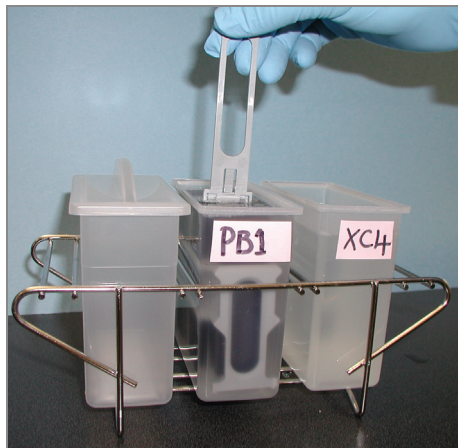

Figure 69 Washing BeadChips in PB1
9. Move the staining rack up and down 10 times, breaking the surface of the PB1 (Figure 69).